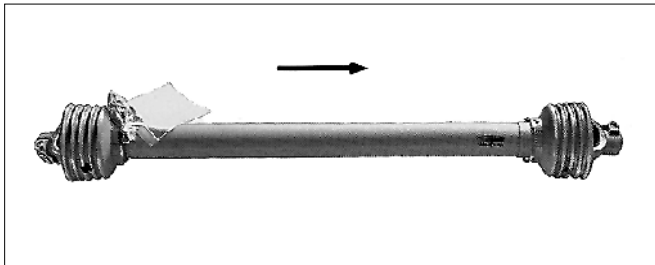

Fig. 4.13
2. **P.T.O. shaft W 2300-SD15-1010 (fig. 4.13),**